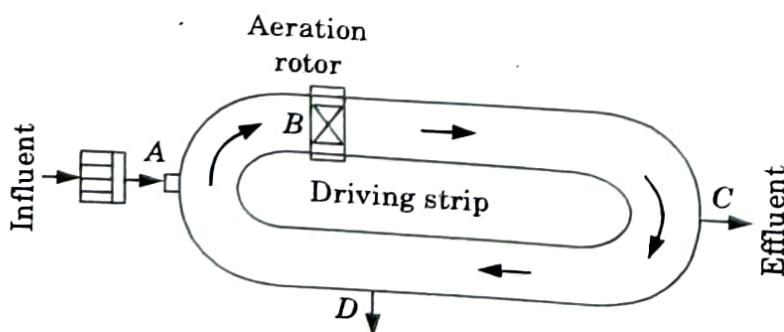

Fig. 5.14.1. Intermittent flow type.
- i. In the intermittent flow type oxidation ditch, shown in Fig. 5.14.1, the no separate settling tank is used.